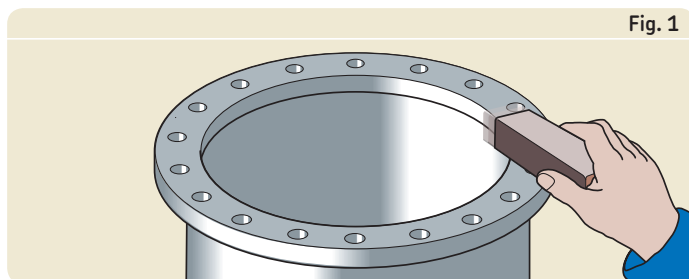

Fig. 1
- 1 Remove any burrs on the seat surfaces with emery cloth or a honing tool (→ **fig. 1**).